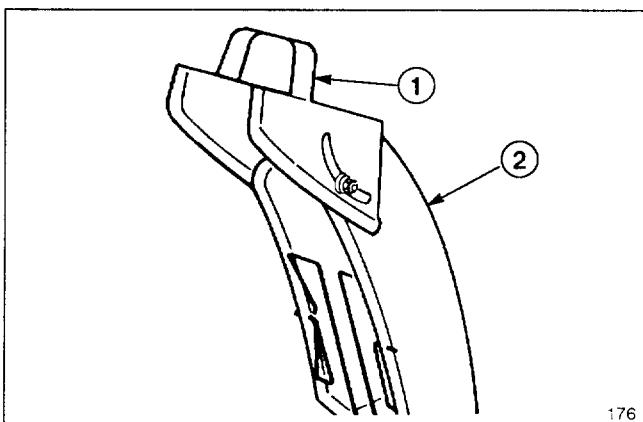

Figure 15
**Deflector Handle** (Fig. 15)—Deflector handle on top of discharge chute is used to control the height of the snow stream.